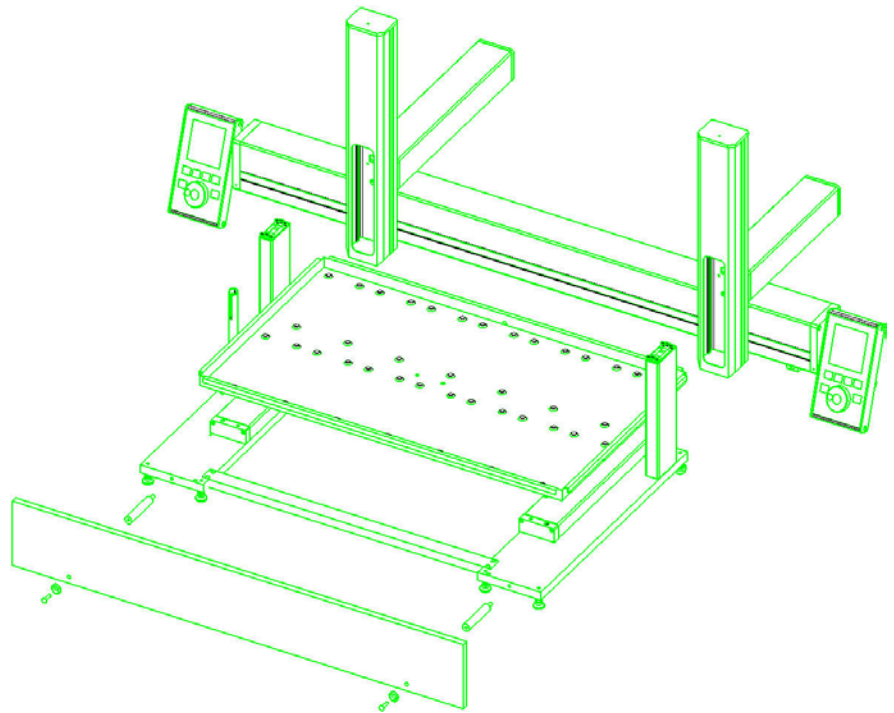

Figure 20. IFC PAL Assembling Tray Pan and X-Y-Axis
- 6 Mount the follower pin for the slider assembly at the left side of the slider device as shown in Figure 20.
- 11 Install the safety shield in front of the slider assembly as shown in Figure 20.